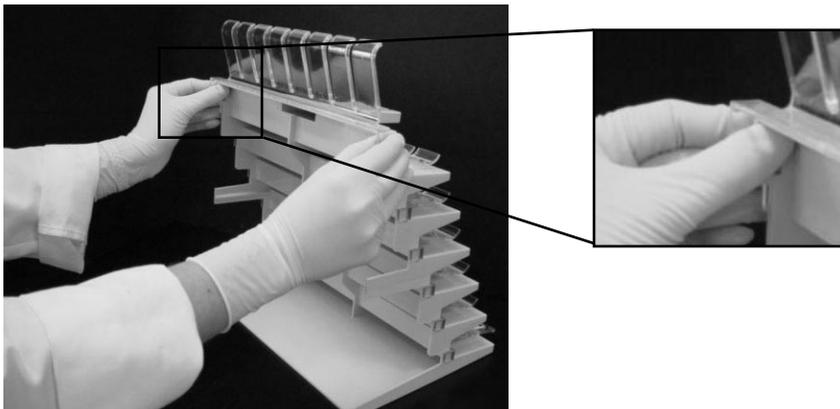

Fig. 4.2.1. Removing the seventh clamp in front.
2. Slide the clamp forward off the base (Figure 4.2.1).